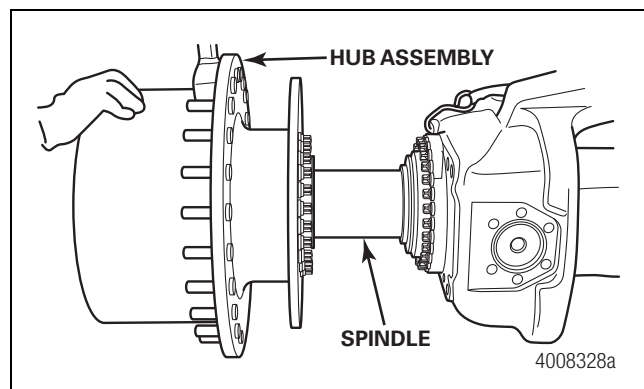

Figure 7.5
8. Use a suitable lifting device to remove the hub assembly from the spindle. Figure 7.5.